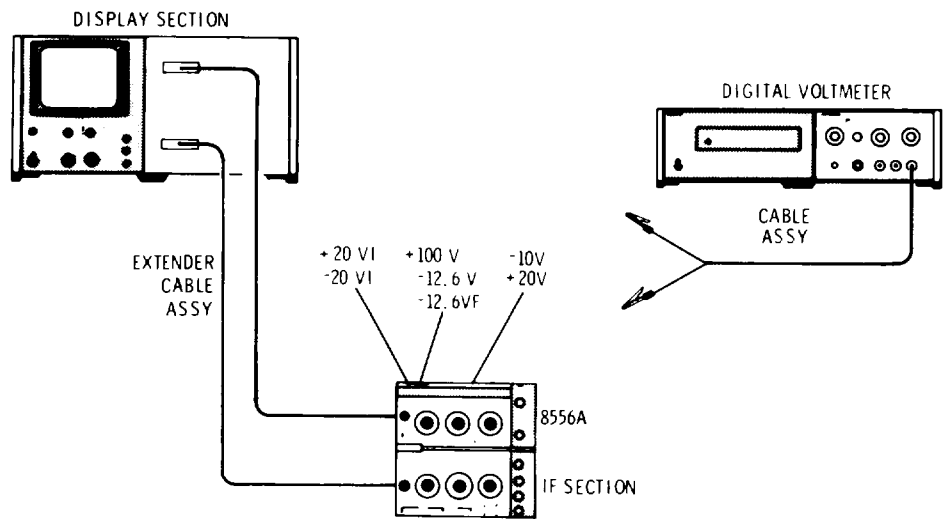

Figure 5-1. Voltage Checks Test Setup
1. Extend LF and IF Sections on Extender Cable Assembly as shown in Figure 5-1.